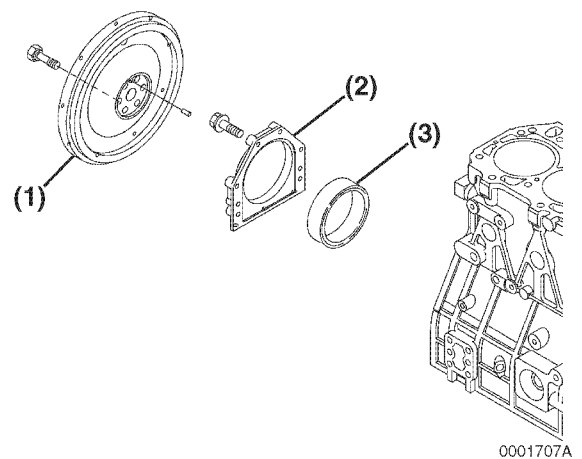

Figure 6-109
- Remove the rear oil seal (Figure 6-109, (3)) from the seal housing (Figure 6-109, (2)).
- Apply a continuous bead of ThreeBond Liquid Gasket No. 1212, Yanmar Part No. 977770-01212 to the outside diameter of a new oil seal (Figure 6-109, (2)), and install in the housing. Apply lithium grease to the lip of the seal.